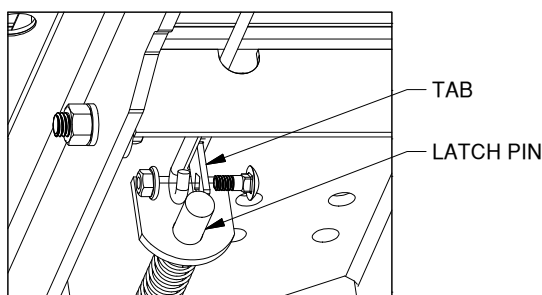

Figure E2: Center Section
2. **Secure the handle.** Secure the handle to the pin with the 5/16" X 3/4" carriage bolt and 5/16" locking flange, see figure E2. Note: The included 5/16" cap screw can replace the carriage bolt if wrench access on the "cab side" of the handle is limited. Tighten the nut until it is secure. Do not over-tighten and deform the handle eyelet.